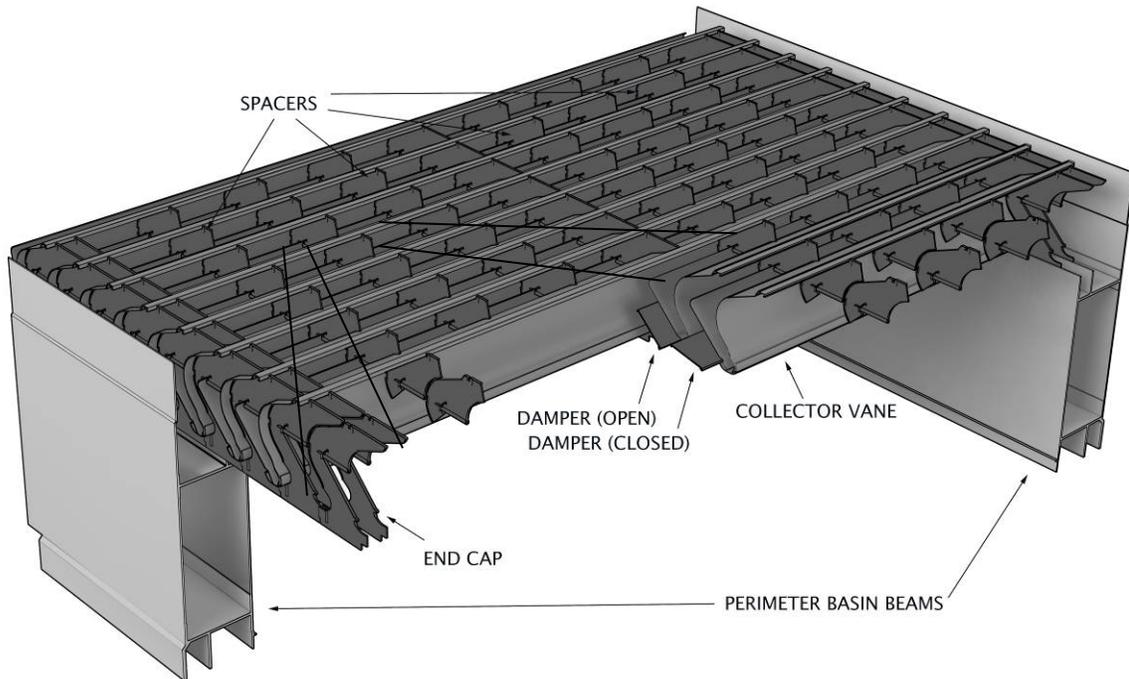

Figure 58 – Water Collection System
- **Collector Vanes:** Each collector vane is approximately 8” wide and 14” high and is installed transversally in the tower module. Collector vanes are a series of overlapping chevron-shaped troughs that capture cooled water falling from the fill media and channel it into the perimeter basin beams. Refer to Figure 58.
- **End Caps** help hold the collector vanes together and secure the Water Collection System to the Perimeter Basin Wall to prevent leaks. End caps are installed in pairs (~2.5” apart) at the end of each collector vane. One End Cap is also installed at the center of each collector vane. Refer to Figures 58 and 59.
- **Spacers** installed ~15” apart along the entire length of each collector vane fasten the Water Collection System together. Refer to Figures 58 and 59.
- Secondary Drainage Channel Drainage Holes. Each end of a secondary drainage channel has a drainage hole (or notch) located between each pair of end caps. The drainage hole allows any water flowing in a secondary channel to escape into the perimeter basin beam. These holes are hidden from view and can only be felt by hand. If a secondary channel's hole or notch becomes plugged by scale, dirt or debris, water may overflow the secondary channel into the fan area. Refer to Figures 58 and 60.
- Dampers. Installed between collector vanes on the bottom of the Water Collection System, dampers are designed to open automatically when the fan beneath it is turned ON, and to close automatically when the fan beneath it is turned OFF. Dampers thereby help contain airborne water drops inside the Water Collection System. Dampers require periodic visual inspection to ensure they are opening and closing fully and freely. Refer to Figure 58.
3. If a Damper does not fit properly or is sticking, remove the damper from the secondary channel. Each Damper is held in place by an F-shaped side that hinges loosely on the top of the secondary channel. Refer to Figures 58 and 60. Always remove all dampers prior to cleaning secondary drainage channels and reinstall once cleaning is completed.